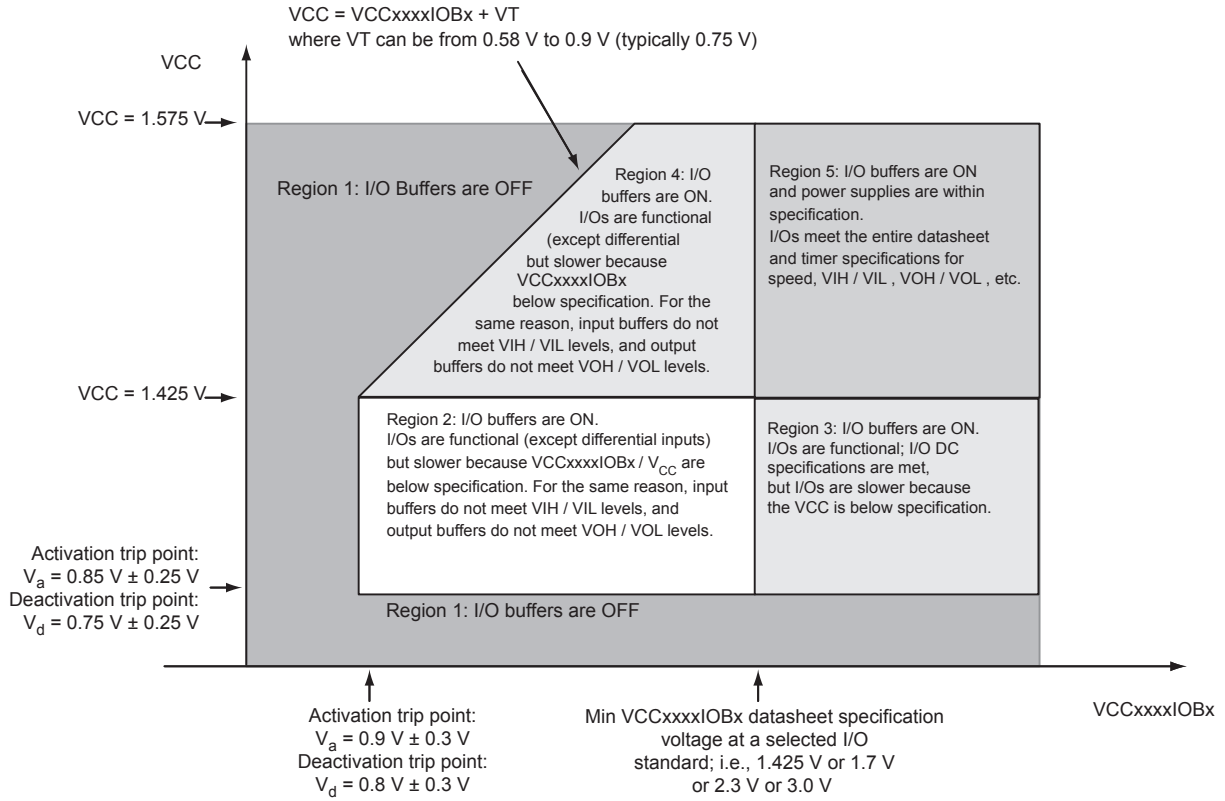

Figure 2-1 • I/O State as a Function of $VCC_{xxxxIOBx}$ and VCC Voltage Levels
Sophisticated power-up management circuitry is designed into every SmartFusion cSoC. These circuits ensure easy transition from the powered-off state to the powered-up state of the device. In addition, the I/O will be in a known state through the power-up sequence. The basic principle is shown in Figure 2-1 on page 2-6.
1. VCC and VCCxxxIOBx are above the minimum specified trip points (Figure 2-1 on page 2-6).
The Microsemi SoC Products Group recommends using monotonic power supplies or voltage regulators to ensure proper power-up behavior. Power ramp-up should be monotonic at least until VCC and VCCPLLx exceed brownout activation levels. The VCC activation level is specified as 1.1 V worst-case (see Figure 2-1 on page 2-6 for more details).